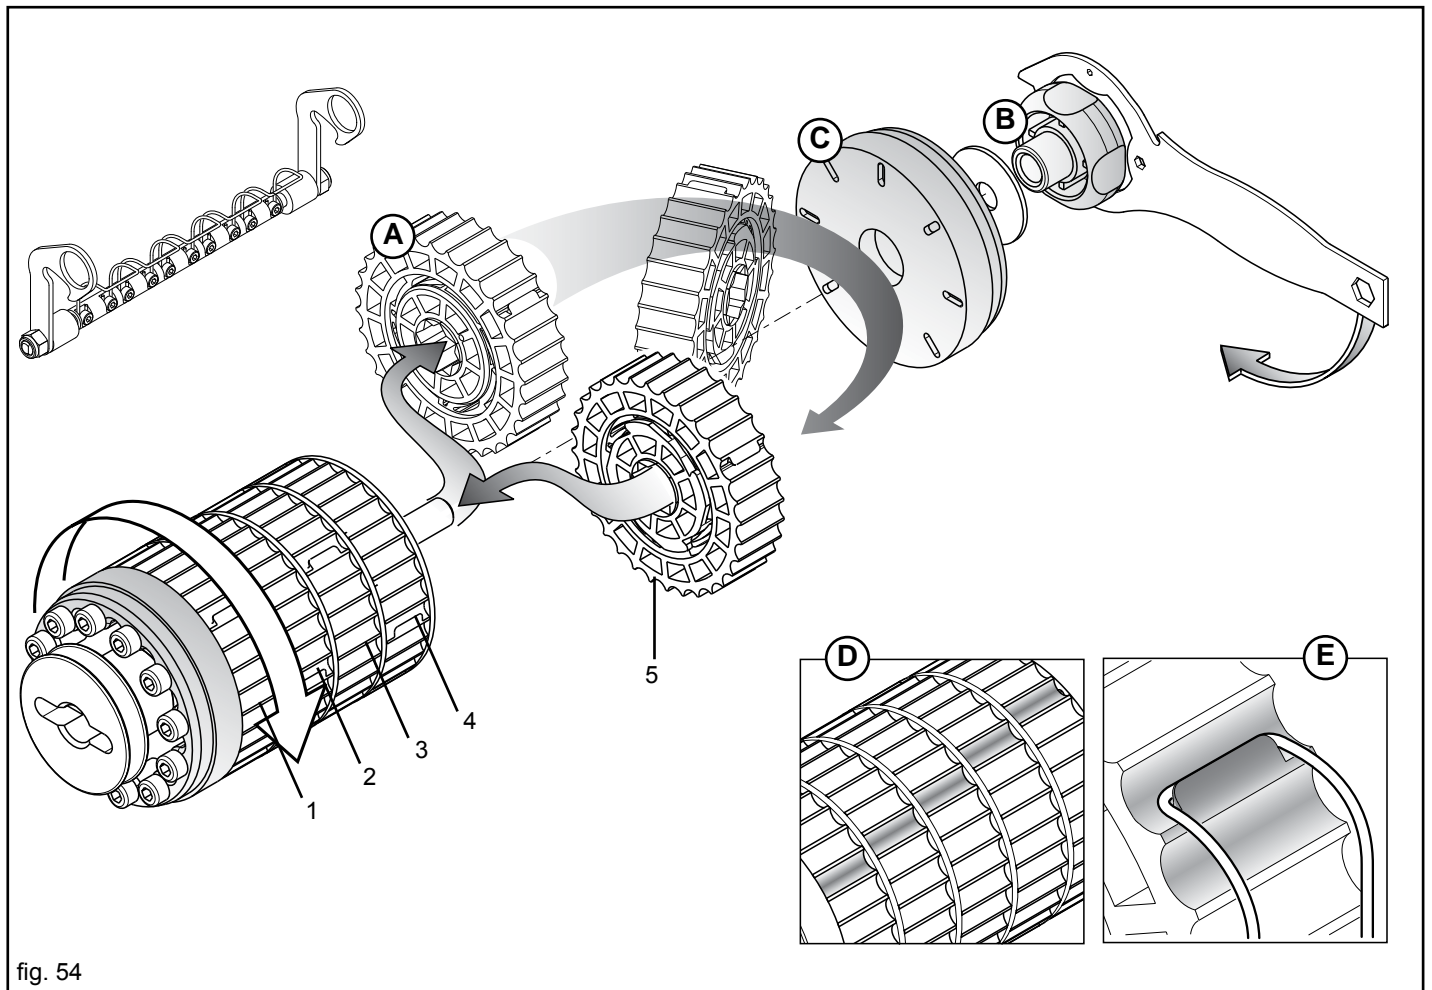

fig. 54
Considering that every section (A, Fig. 54) of the dosing roller distributes 20% of the product contained in roller itself, the number of operating sections can be increase and the gearbox rotation speed to reduce to obtain more homogeneous distribution.
First, take the dosing roller off the machine. Then, unscrew the knob (B, Fig. 54) using the supplied wrench and remove the lock nut (C). Extract the section(s) to be activated and put them back in **their positions** (1-2-3-4-5, Fig. 54) turning them by 180°.
When re-assembling the sections, make sure that during operation the dosing grooves of the active sections are staggered from one another (D, Fig. 54). This will give continuity to distribution.
Block the cleaning element in the operating position and make sure that the springs hook the previously excluded sections (E, Fig. 54) preventing their rotation and consequently distribution.